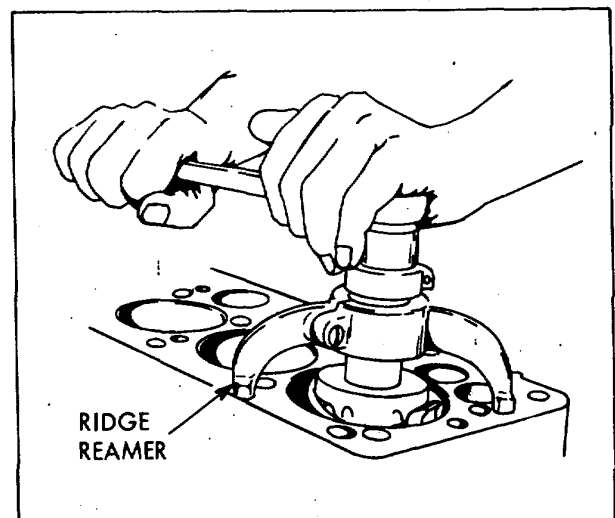

Figure 6-32. Using Ridge Reamer
(1) Remove the oil pan.
(2) Remove the cylinder head from the engine block.
(3) Using a ridge reamer (Figure 6-32), remove the ridge from the top of the cylinder bore.